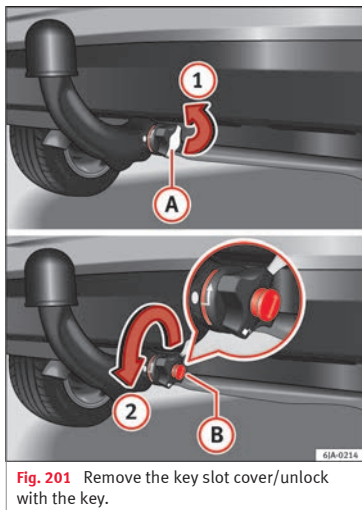
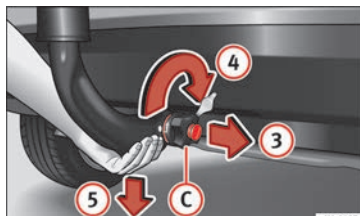

Fig. 201 Remove the key slot cover/unlock with the key.
Fig. 202 Unblock the ball-headed bar.
- Remove cover (A) from over the regulator key slot in the direction of arrow (1) » **Fig. 201.**
- Insert key (B) in the key slot.
- Open the manual regulator lock by turning key (B) fully to the left in the direction of arrow (2). The arrow on the key points to the “unlocked” symbol.
- Hold the ball-headed bar from underneath » **Fig. 202** and remove manual regulator (C) with your other hand in the direction of arrow (3).
- Turn the removed regulator fully in the direction of arrow (4) and hold it firmly in this position.
- Remove the ball-headed bar from the clamping bush, pulling downward in the direction of arrow (5).